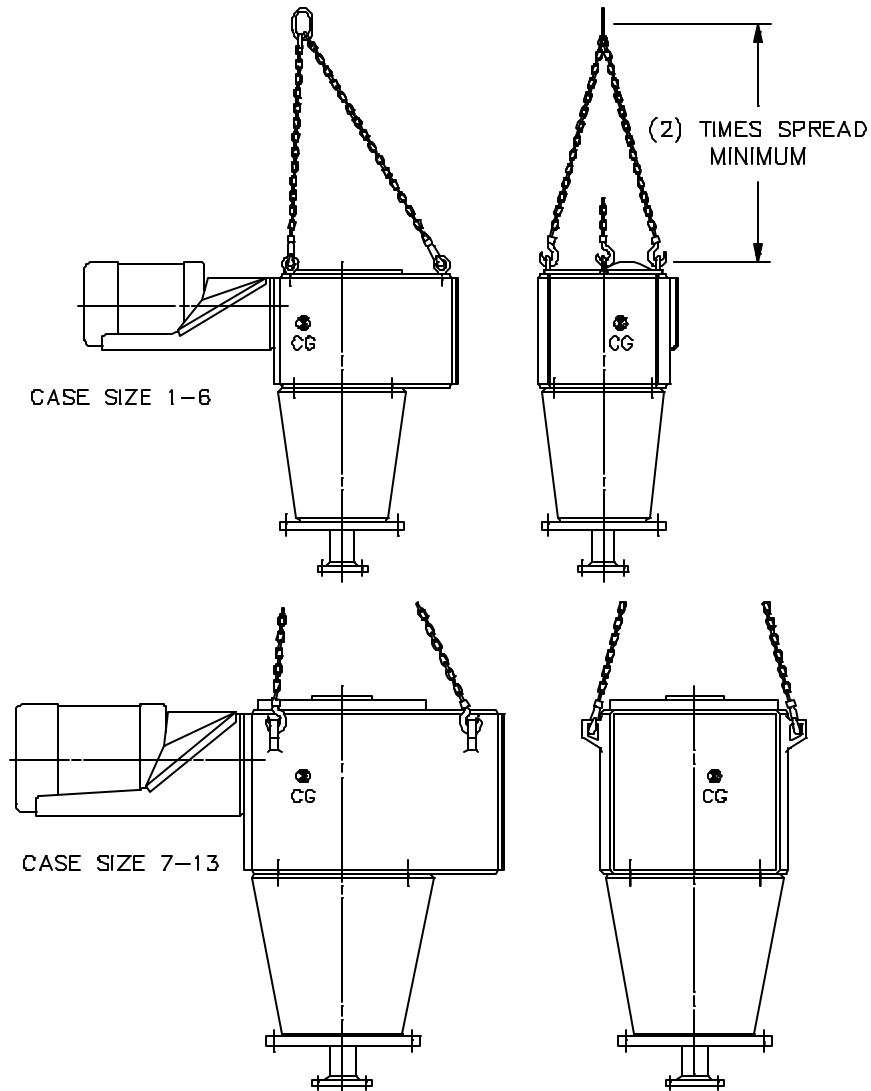

Figure 4: Agitator Lifting System
2. Remove all shipping restraints. A hoist or crane system for lifting the agitator parts must be available. Refer to *Figure 4, page 14* for lifting. The approximate net weight of the unit is shown on the unit assembly drawing.